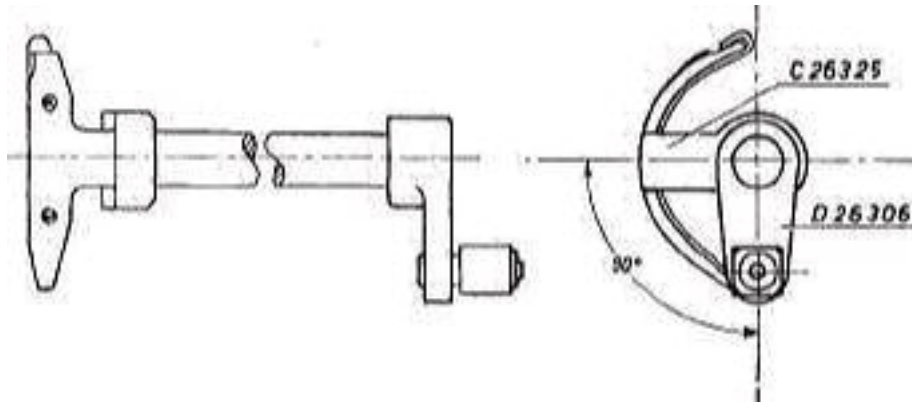

Fig. 29
indicated in Fig. 29). This angular position is approximately correct but in must be checked (see item 2 below). Now, tighten firmly the set screw No. 04850 GEB in the oscillating crank shaft (Fig. 28). Assemble the machine completely.